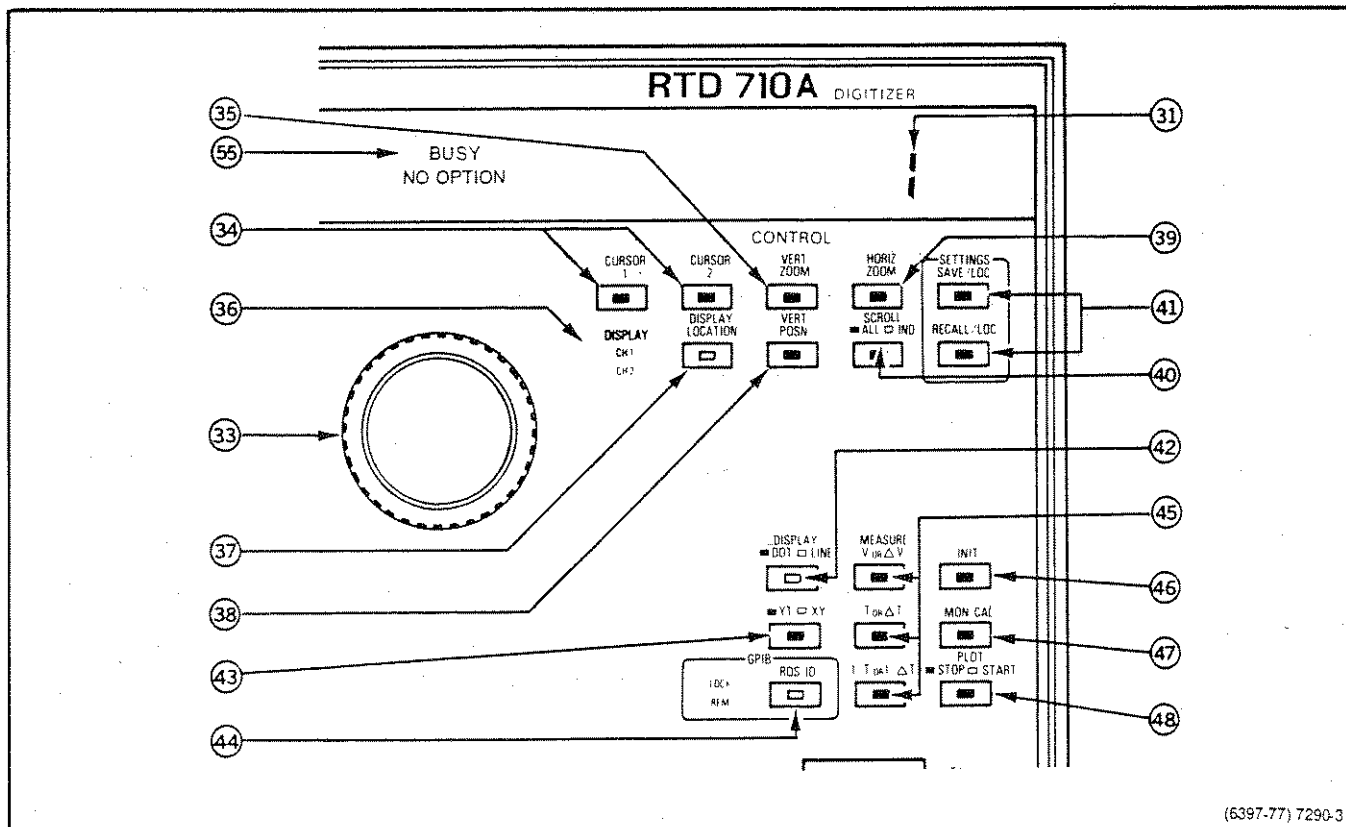

Fig. 3-7. Control section of RTD 710.
Refer to Fig. 3-7 for the location of items 31 through 47.